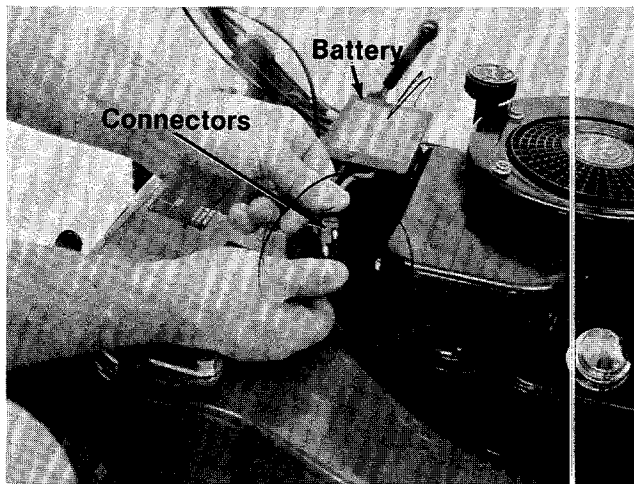

FIGURE 13.
20. Plug the connector on the battery into the connector on the wire harness on the mower. See figure 13.